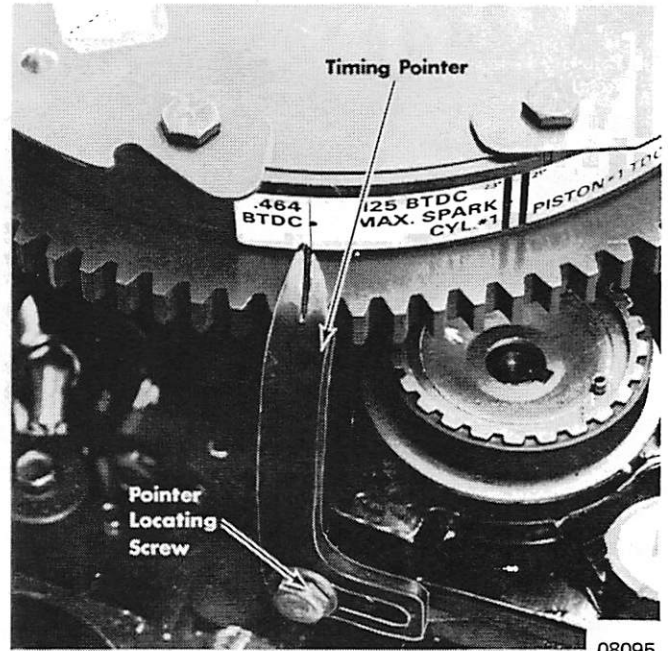

Figure 2. Timing Pointer at .464"
3. Install dial indicator in No. 1 cylinder. Rotate flywheel in a clockwise direction to top dead center. Rotate flywheel in a counterclockwise direction until dial indicator measures more than .464 BTDC. Rotate flywheel in a clockwise direction to exactly .464 BTDC. Position timing pointer with the .464 mark on the flywheel decal. (Figure 2) Tighten the pointer locating screw.